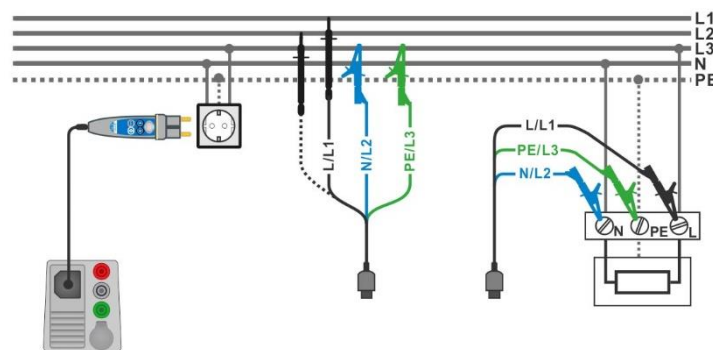

Figure 7.56: Phase-neutral or phase-phase line impedance measurement – connection of Plug commander and 3-wire test lead
- ▶ Connect 3-wire test lead or Plug commander to the object under test, see *Figure 7.56*.